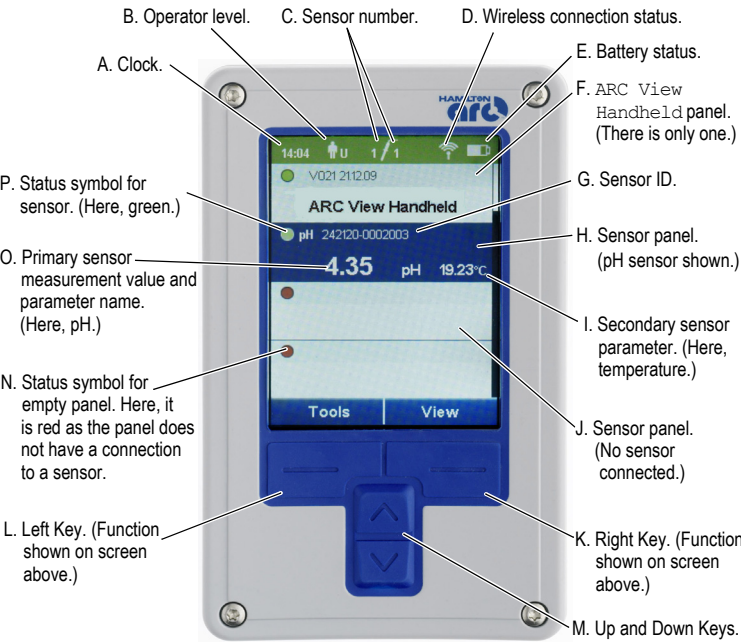

Figure 1.2 The ARC View Handheld showing top level of interface, pH sensor attached
J. Sensor panel (no sensor connected)	<p>The top-most level of the Handheld's user interface is divided into four visible panels and 27 invisible panels. If a sensor is displayed on a panel, whether visible or currently invisible, you can scroll to it with the Up and Down keys.</p> <p>This panel is blank in Figure 1.2 because there is no sensor associated with it. As soon as a new ARC sensor is added to the ARC System, a new wireless connection will be automatically created, and information will be shown here.</p>